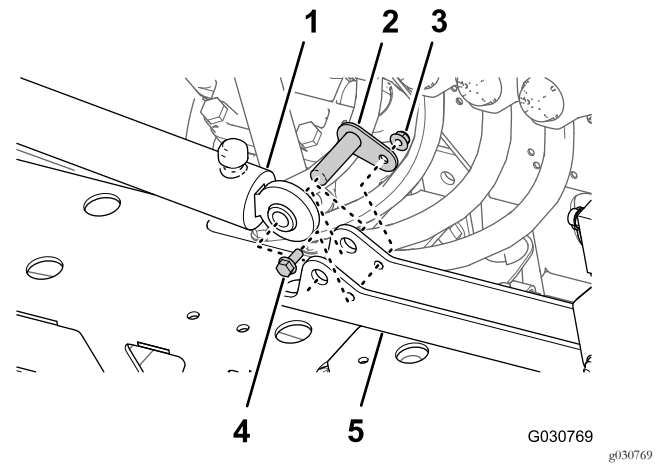

Figure 94
2. Assemble the cylinder to the cylinder mount with the pivot pin, flanged-head bolt, and flange nut (Figure 94).
1. Align the fixed end of the lift cylinder that you removed in step 4 of Removing the Lift Cylinder (page 27) to the 16 mm (5/8 inch) hole in the cylinder mount (Figure 94).